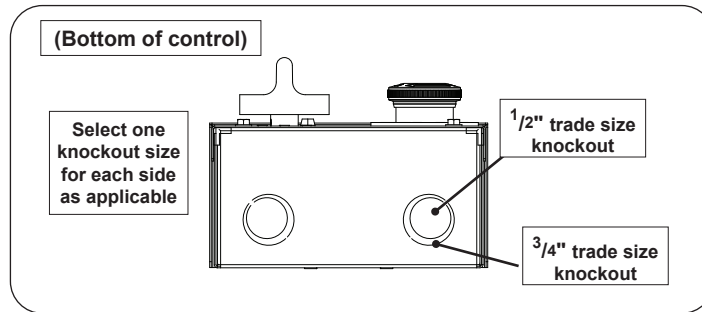

Fig. 4-1 Run electrical wiring
1. Route electrical wiring to the control as required for your installation. Use the appropriate knockouts (1/2" or 3/4" trade size) to run wiring to controller. See Fig. 4-1 and the wire diagram on the following page.